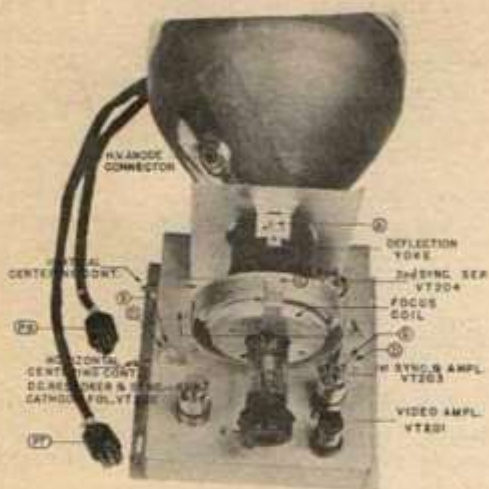

Fig. 3 - Picture Chassis
1. Remove side panel of picture box and take out the hold-down screw inside of picture box. This screw holds picture box to shelf during shipment. Carefully remove the cardboard shipping strips between Picture Box and cabinet by pulling the strips back. Remove the two hex head shipping screws (S) on the base of the Focus Coil Supports (See figure 3). Remove the two No. 8 hex nuts in the upper inside, front corners of the box and the two screws in the lower front outside surface. This allows removal of the front safety glass panel of the picture box.
3. Loosen the thumbscrew (A) and slide the deflection yoke towards the rear of the picture box and tighten. (See Fig. 3).
5. To check the alignment of the focus coil with the yoke, look through the front of the picture box. The yoke and focus coil must be in line. If the opening is blocked by the focus coil, loosen the thumbscrews (B), (C) and (D) Fig. 3). Raise, lower or rotate the focus coil until a clear opening is obtained. Tighten the thumbscrews in this position.
9. Insert the neck of the picture tube (with the anode connector 90° to the right, see Fig. 3) through the deflection and focus coils until the tube face is approximately flush with the front of picture box. If the tube sticks or fails to slip into place smoothly, investigate and remove the cause of the trouble. Do not force the tube.
To correct, adjust the focus coil on top of the chassis (Fig. 3) until the corners of the picture are clear. If may then be necessary to readjust the centering controls in the back of the receiver. It may also be necessary to readjust the focus control to provide the clearest picture.